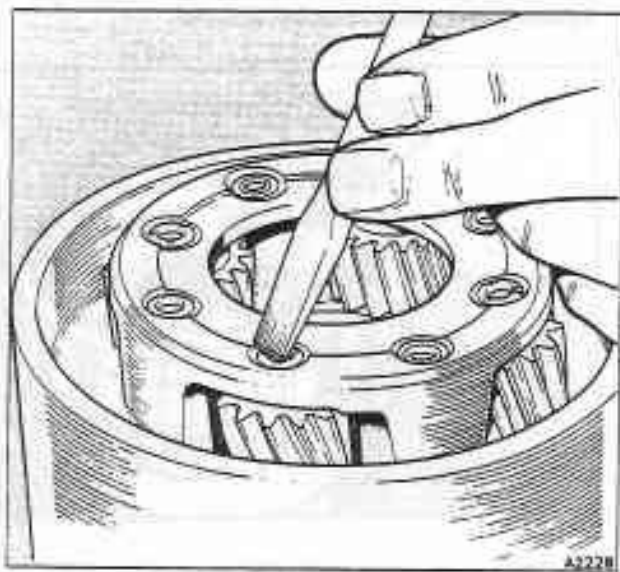

Fig. T20-13 Staking a pinion pin
12. Support the carrier with the head of the pin resting on the punch. Then, using a chisel with a radiused end stake the opposite end of the pin in three places (see fig. T20-13).